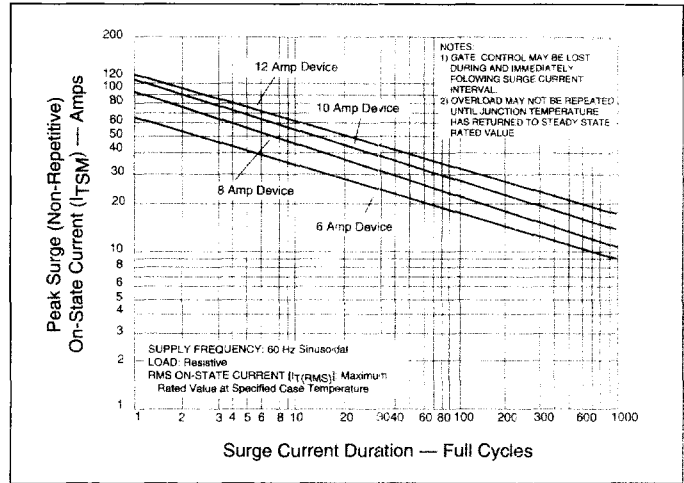

Figure 4.10 Peak Surge Current vs Surge Current Duration (6-12 Amp Devices)
- (9) See Figures 4.10 and 4.11 for surge rating with specific durations.